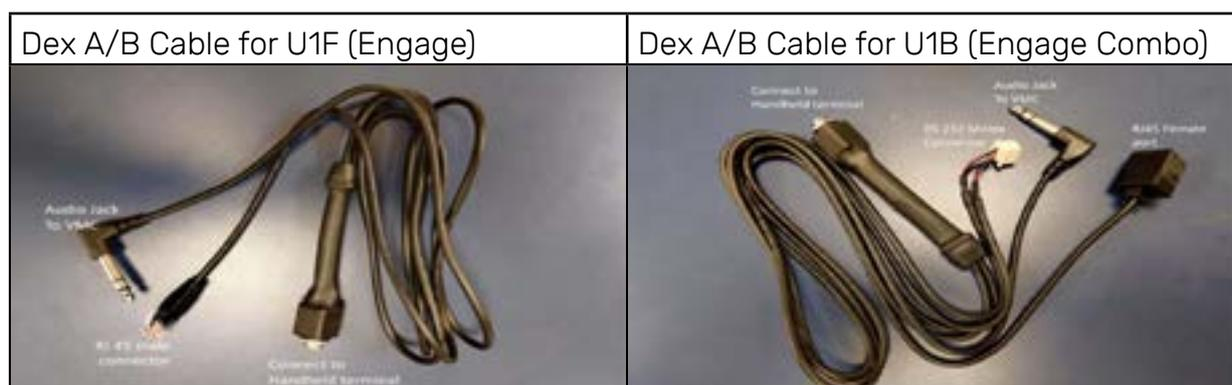

figure 2.5
2. Connect the DEX cable to the DEX port on the vending equipment. There are several areas inside of the vending equipment that house a DEX port, making it versatile where you can connect your DEX cable. There are optional DEX Y cables that can also be used for installation if necessary (see figure 2.5).